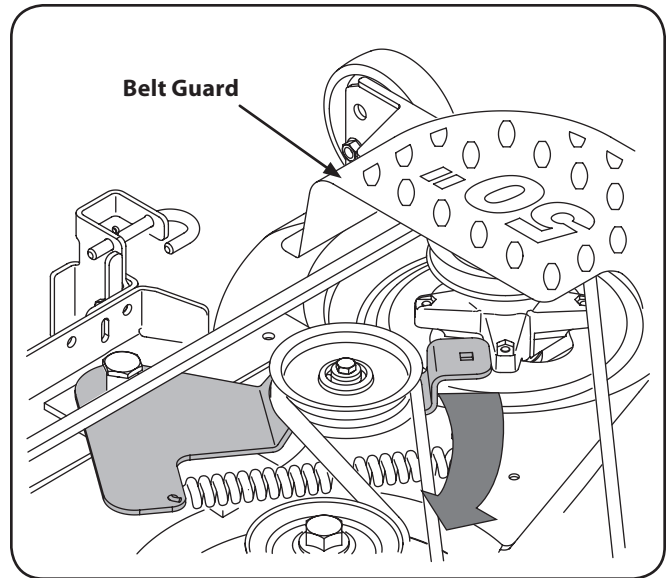

Figure 7-6
Note: If there is too much tension on the belt for it to be easily removed from the electric PTO clutch, carefully insert a $\frac{3}{8}$ -inch drive ratchet wrench (set to *tighten*) into the square hole found in the left-hand deck idler bracket and pivot it toward the tractor's right side to relieve tension on the belt. See Fig. 7-6.
3. Remove the belt guards by removing the self-tapping screws that fasten them to the deck. See Fig. 7-6.